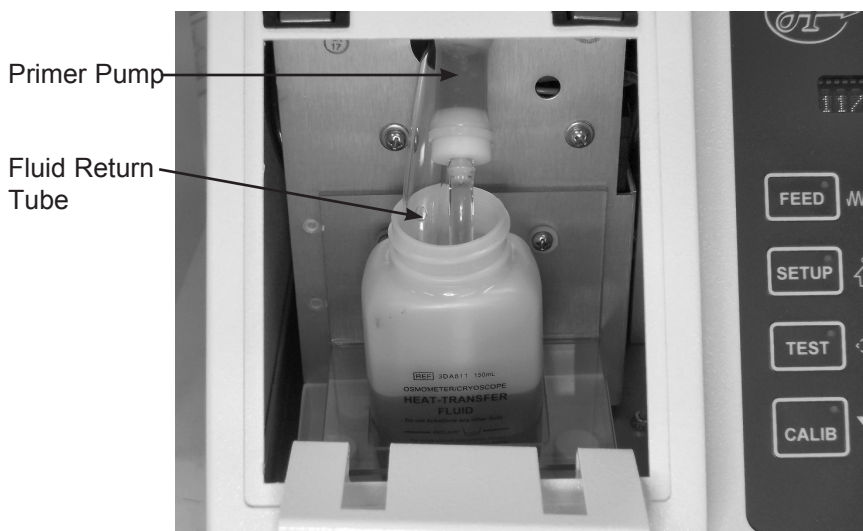

Figure 2: Prime the Heat Transfer Fluid Pump
5. Open the heat transfer fluid door to access the small primer pump (Figure 2). Squeeze the primer pump while the operating head is cycling, making sure to squeeze at the same time that the operating head reaches the bottom of its cycle. Observe the fluid return line from the cooling well back to the bottle. Once fluid begins to appear, continue priming for five more cycles to remove any trapped air. Stop using the primer pump and watch the return line to make sure that a small amount of fluid continues to flow through the return line with each head up/down cycle. Then press the **STOP** key to raise the operating head and exit to the test menu.